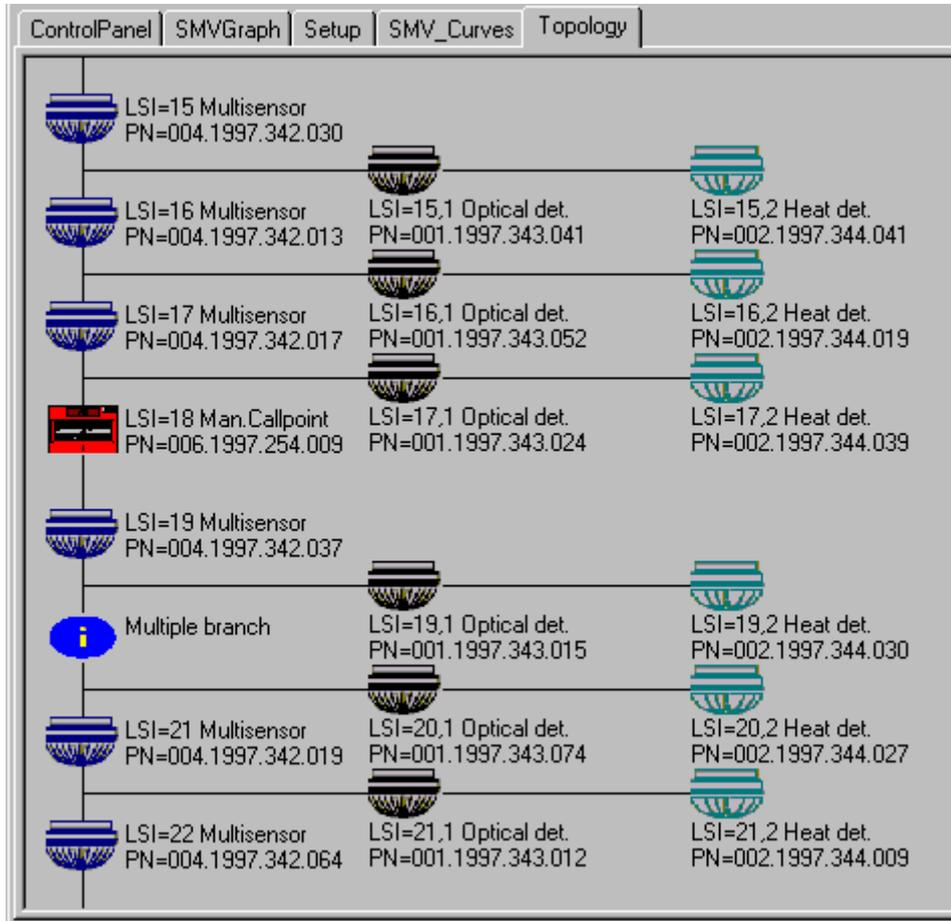

Figure 33. Multiple branch-off (star connection)
- Figure 33.* Multiple branch-off (star connection)